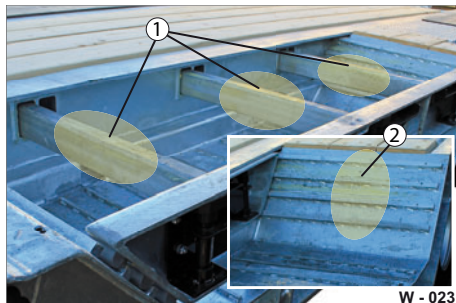

Fig. 22 Lubricating sliding points
- ▶ Lubricate the bearing points (Fig. 22/1,2) on both sides with machine lubricant.